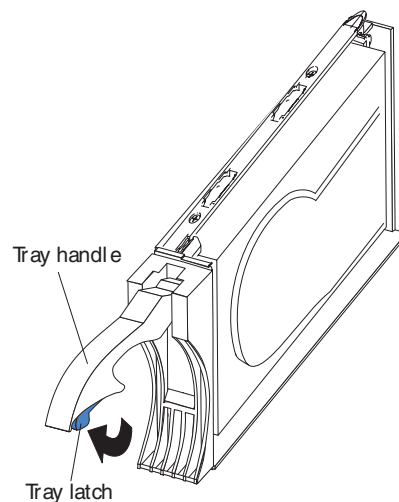

Figure 80. E-DDM CRU handle
- b. Pull the handle on the tray out so that it is in the open position, as shown in Figure 80.
- a. Release the latch on the E-DDM CRU by pressing on the inside of the bottom of the tray handle, as shown by the arrow in Figure 80 on page 129.